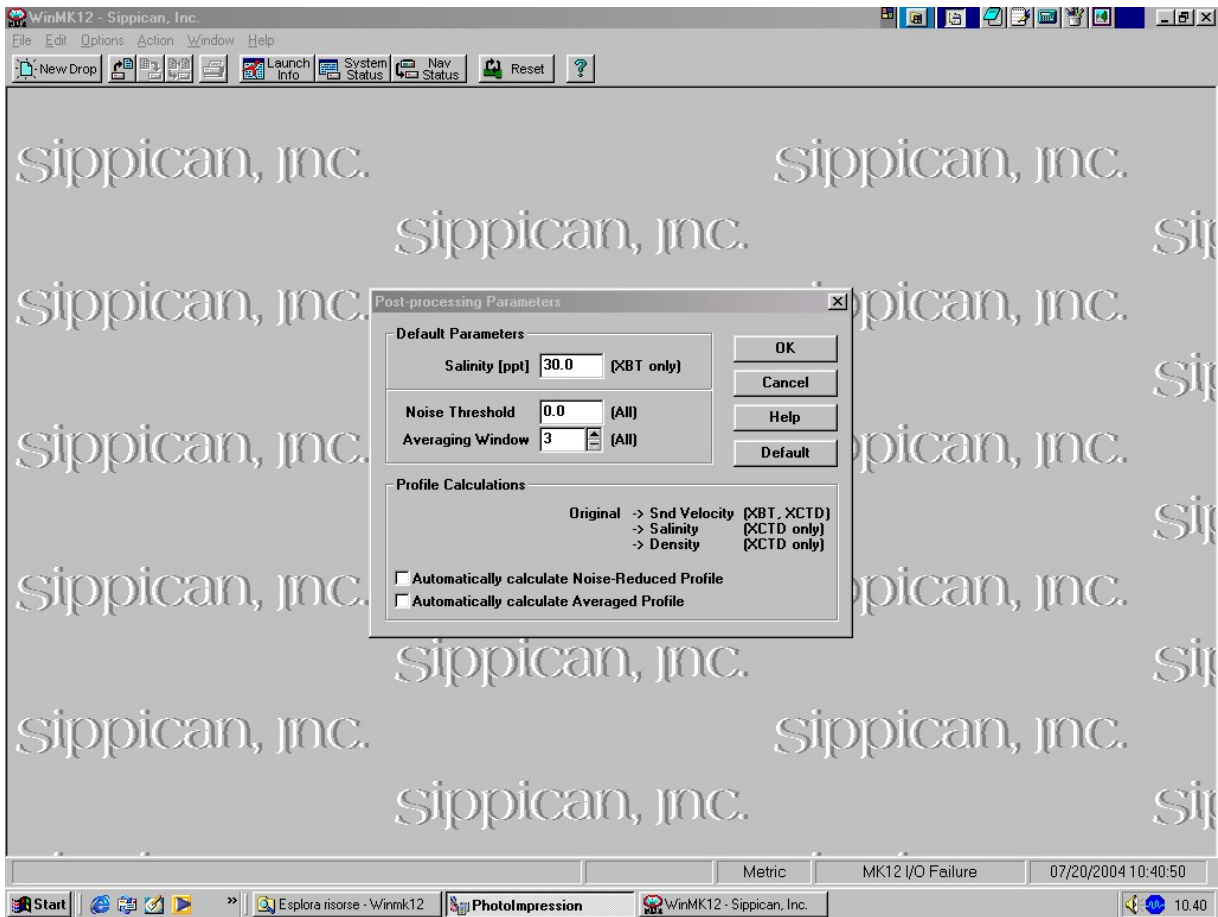

Figure 3. Setting the **Post-Processing**. Elimination of any filter.
3. No Filtering of Data. It is necessary that data are not filtered and be at full resolution, otherway the MFS-VOS software will not work appropriately. This can be checked by clicking **Options**, then **Post-Processing** and check that 'Automatically Calculated Noise Reduced Profiles' and 'Automatically Calculated Averaged Profiles' are not selected (see figure 3).